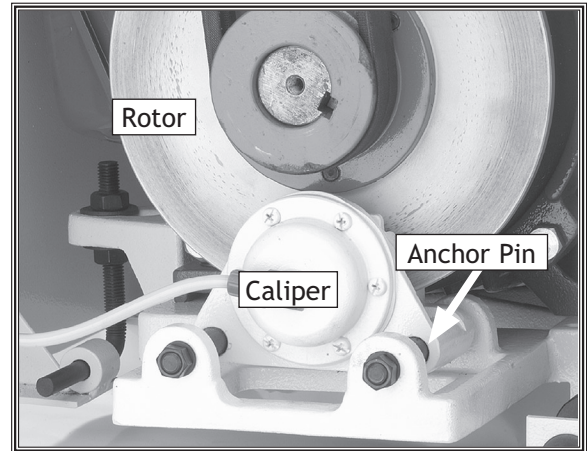
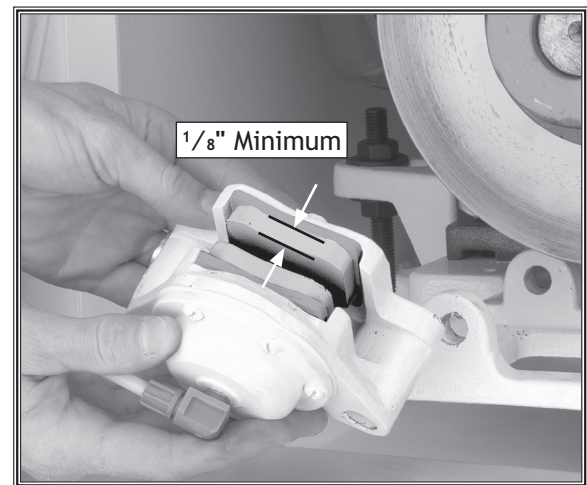

Figure 25. Brake assembly.
Figure 26. Brake caliper removed for access to brake pads.
Check the brake rotor (shown in **Figure 25**) regularly to make sure it is clean and the pads are still in good condition (see **Figure 26**). Using the emergency stop system for daily machine shutdown will wear out the sanding belts and the brake pads. Inspect for any grease or oil on the brake rotor as oil reduces emergency braking ability. To clean any lubricants from the rotor, only use automotive brake parts cleaner and a dry rag. Replace brake pads if they are contaminated with oil or if you suspect they are failing. **DO NOT** re-use oily brake pads!
3. Measure the thickness of each pad, if a pad is below $\frac{1}{8}$ " (**Figure 25**), then replace both brake pads.
2. Use a 14mm wrench and remove the two caliper anchor pin retaining nuts and washer (see **Figure 25**).
3. Use locking pliers to clamp on the anchor pin end and pull the pin from the caliper mount, and remove the springs and caliper (see **Figure 26**).